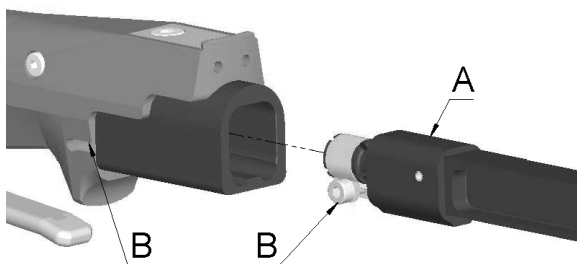

Fig. 5 Mounting the blade holder, Device EFA-RZ100
1. Insert blade holder (item. A, fig. 5) all the way into the device. Please note: The screw (item B, fig. 5) must be undone for this process.
2. Tighten the screw (item B, fig. 5) with the supplied torque wrench with 3 Nm.